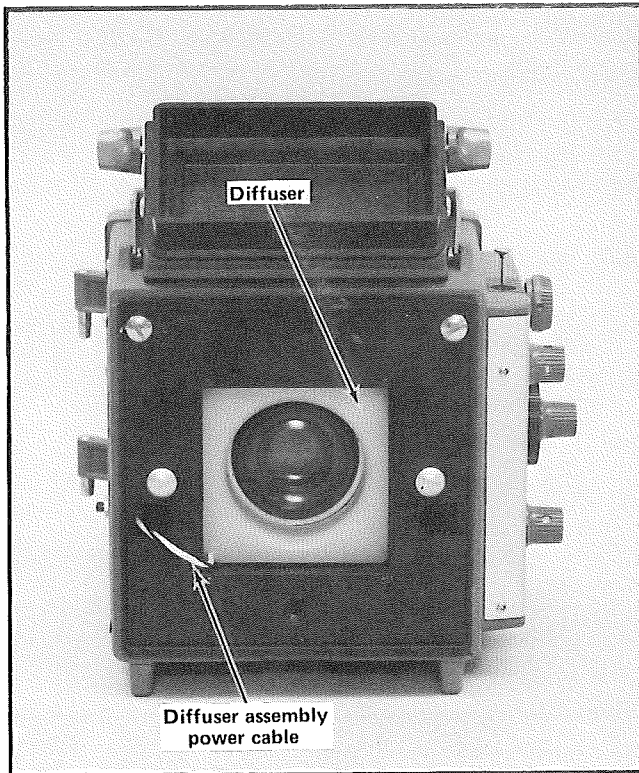

Fig. 2-9. Installing the diffuser assembly into the C-59 camera.
8. Remove the protective covering from the tape on the back side of the diffuser assembly. Press the diffuser assembly into the rear of the camera in the manner shown in Fig. 2-9.
9. Route the power cable for the diffuser assembly in the manner shown in Figs. 2-9 and 2-10.